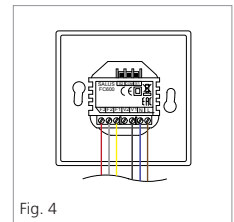

Fig. 4
4. Connect power supply, connect wires into the appropriate terminals on the controller. See Fig 4.